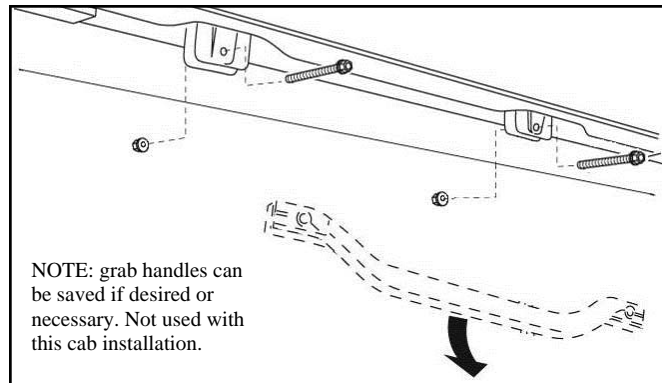

Figure 3: Remove Grab Handles
1.3. Remove overhead grab handles from roof. (Figure 3.)